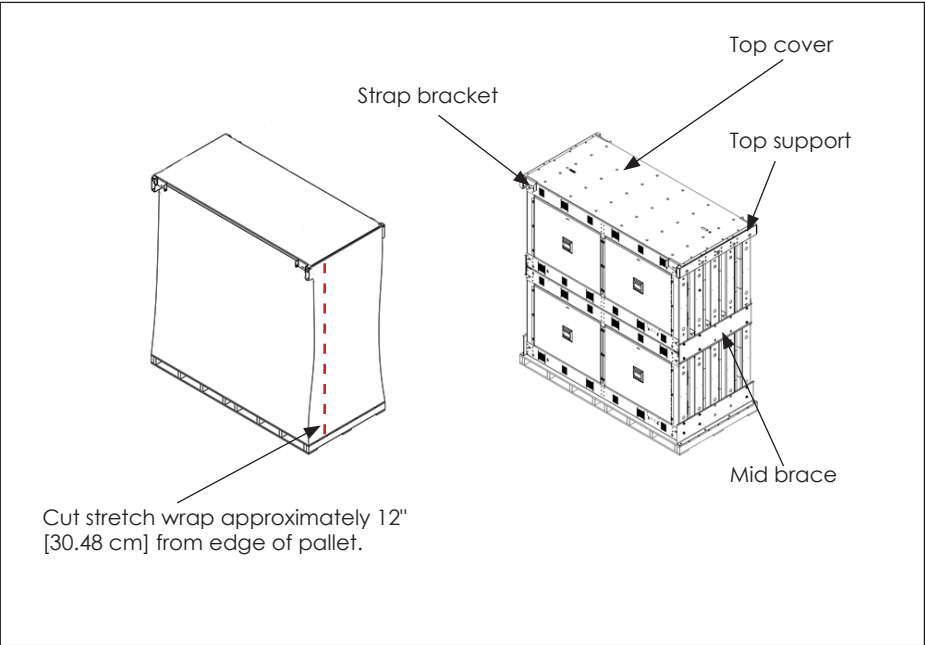

Figure 3: Disassemble Crating
1. Remove the stretch wrap, top cover, two top supports, two strap brackets, and in stitched applications, the mid height support brace. Refer to **Figure 3**.